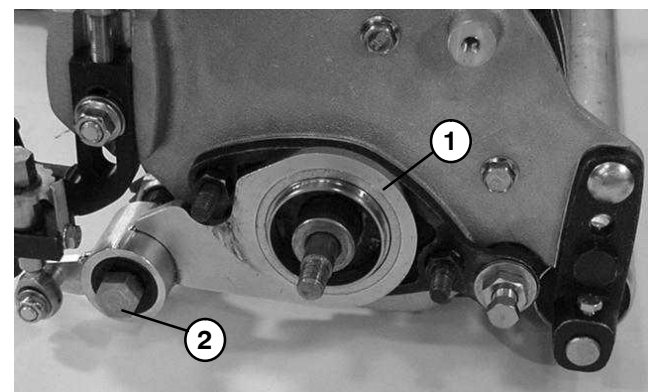

Figure 10
10. Remove the seal nut that secures the groomer shaft to the groomer LH side plate (Fig. 10).
2. Place groomer reel shaft assembly into the LH side plate bearing. Screw seal nut onto the shaft threads. **Do not tighten** (Fig. 10).